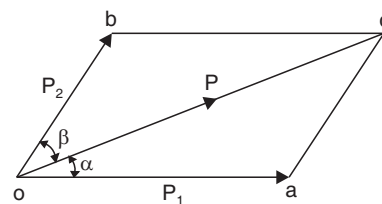

Fig. 2.12
**2. Non-perpendicular components.** Refer Fig. 2.12. Let  $oc$  represents the given force  $P$  in magnitude and direction to some scale. Draw  $oa$  and  $ob$  making angle  $\alpha$  and  $\beta$  with  $oc$ . Through  $c$  draw  $ca$  parallel to  $ob$  and  $cb$  parallel to  $oa$  to complete the parallelogram  $oacb$ . Then the vectors  $oa$  and  $ob$  represent in magnitude and direction (to the same scale) the components  $P_1$  and  $P_2$  respectively.